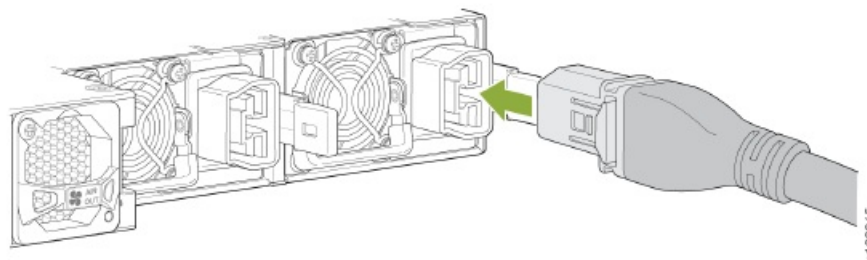

Figure 10: Connect an AC Power Cord to the PTX10001-36MR
4. Connect each power supply to the power sources. Insert the coupler end of the power cord into the AC power cord inlet on the AC power supply faceplate (see Figure 10 on page 12).